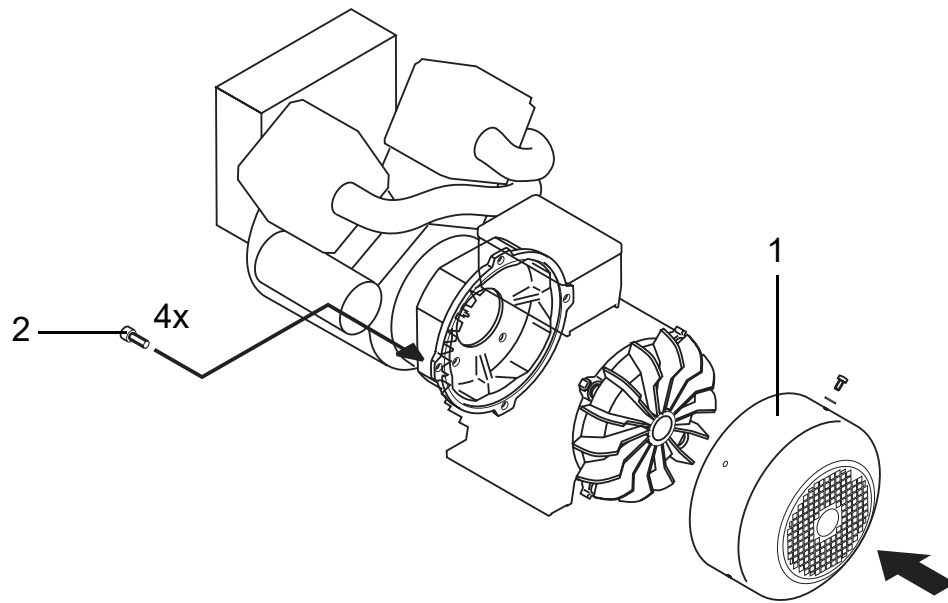

Fig. 15 Assembly of brushless single-bearing generators with tension bolts (2)
- ⇒ Fig. 15, Assembly of brushless single-bearing generators with tension bolts (2), page 51
- > Secure the bearing plate to the generator with the four mounting screws [2] (Figure 15).
- > Attach the fan wheel cover [1] (Figure 15).